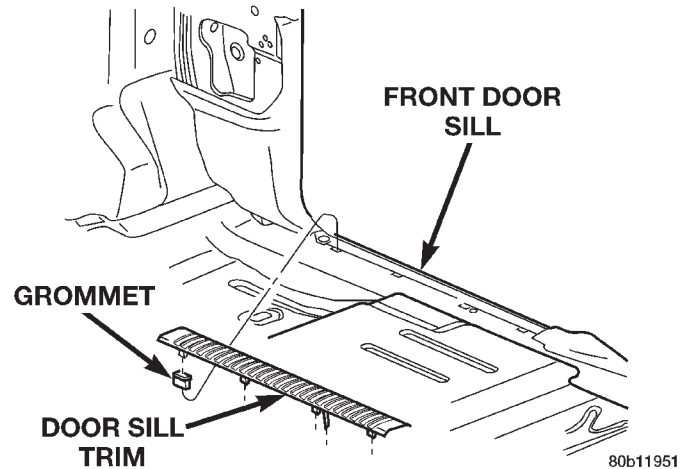

Fig. 81 Front Door Sill Trim
- (1) Using a trim stick, pry up door sill trim.
- (2) Grasp door sill trim and lift upward.
- (3) Separate door sill trim from vehicle (Fig. 81) and (Fig. 82).